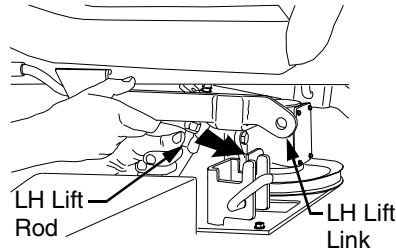

Figure 42
7. Unlock the left lift link by sliding the left lift rod fully rearward in the slot of the lift link (See Figure 42).